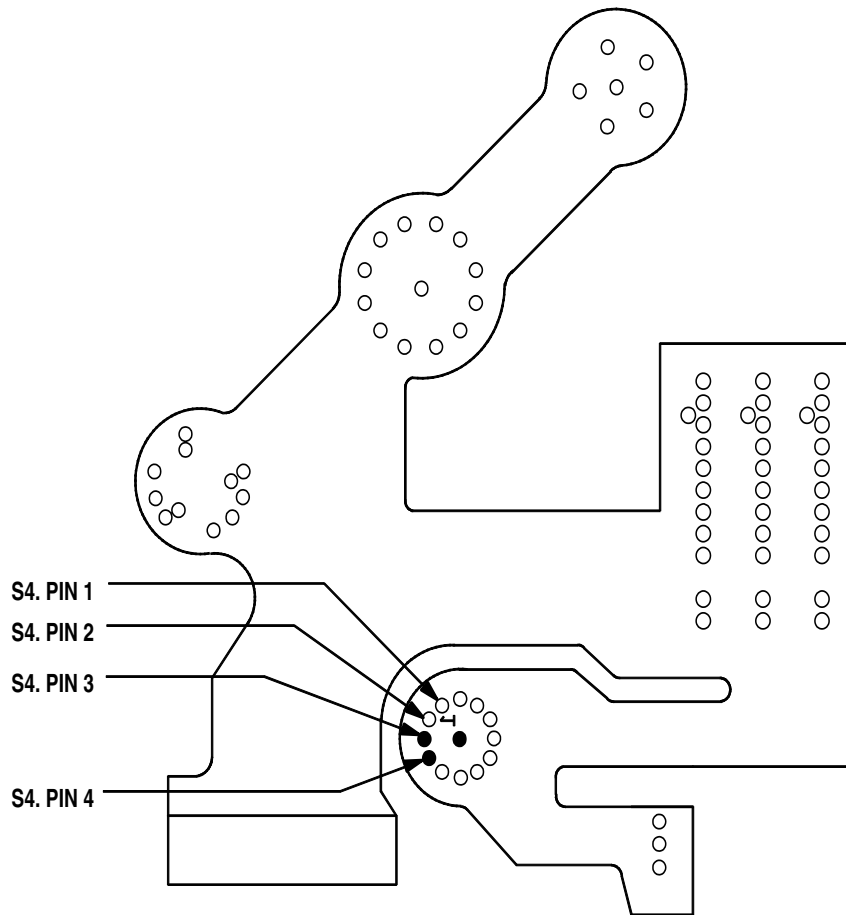

Figure 2. Rear View of Bad Switch Flex Assembly (1A17A1W2)
- c. If pins 3 and 4 and center pin are incorrectly soldered (shifted) relative to pin 1, as shown in Figure 2, the flex-switch assembly is bad. Return to manufacturer in accordance with shipping instructions in paragraph 4.